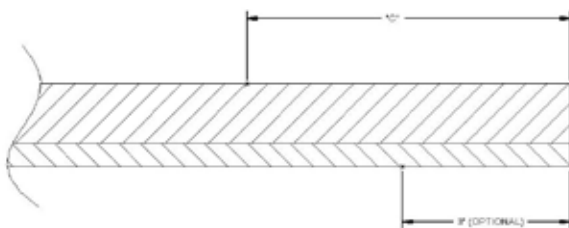

Figure 2
c) For area shown as "C" in Figure 2 for straight butt joints, the surface should be thoroughly sanded to remove all brushcoat, wax, grease, dirt, or any other contaminant.